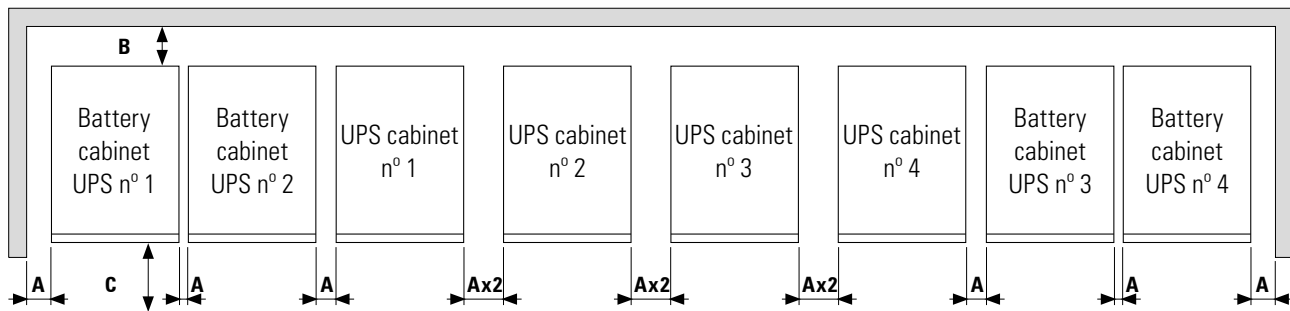

Fig. 37. Minimum dimensions for ventilating a system.
- Fig. 37 shows an example of 4 parallel units with their respective battery cabinets. For systems with fewer units, act accordingly on a case-by-case basis.